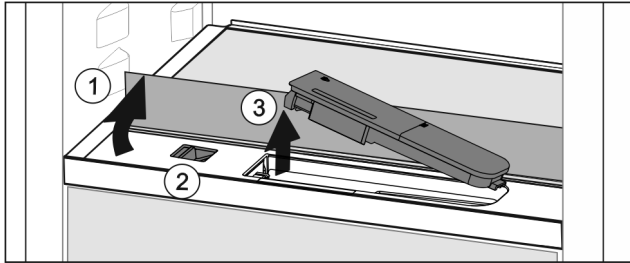

Fig. 159
- Lift the glass panel and fold to the back as far as it will go Fig. 159 (1).
- Slide the slider Fig. 159 (2) to the left.
- Remove the water tank Fig. 159 (3).